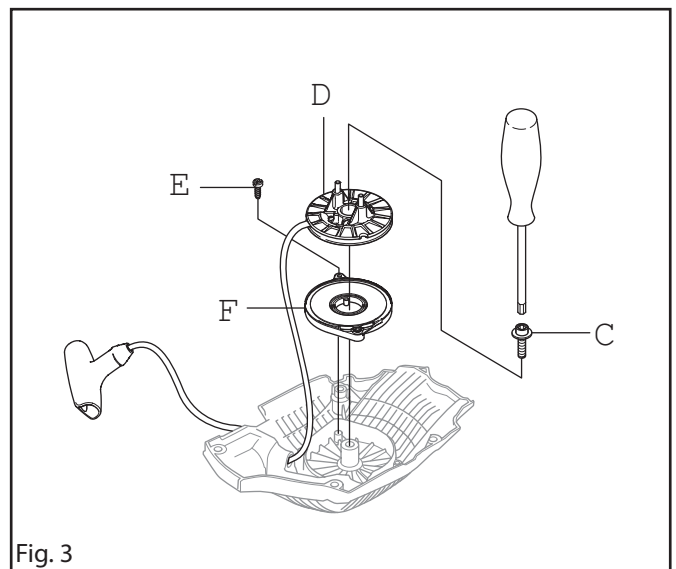

Fig. 3
2. Fit the cassette (F) on the starter. Screw the 2 screws in the spring cassette (E). See figure 3.